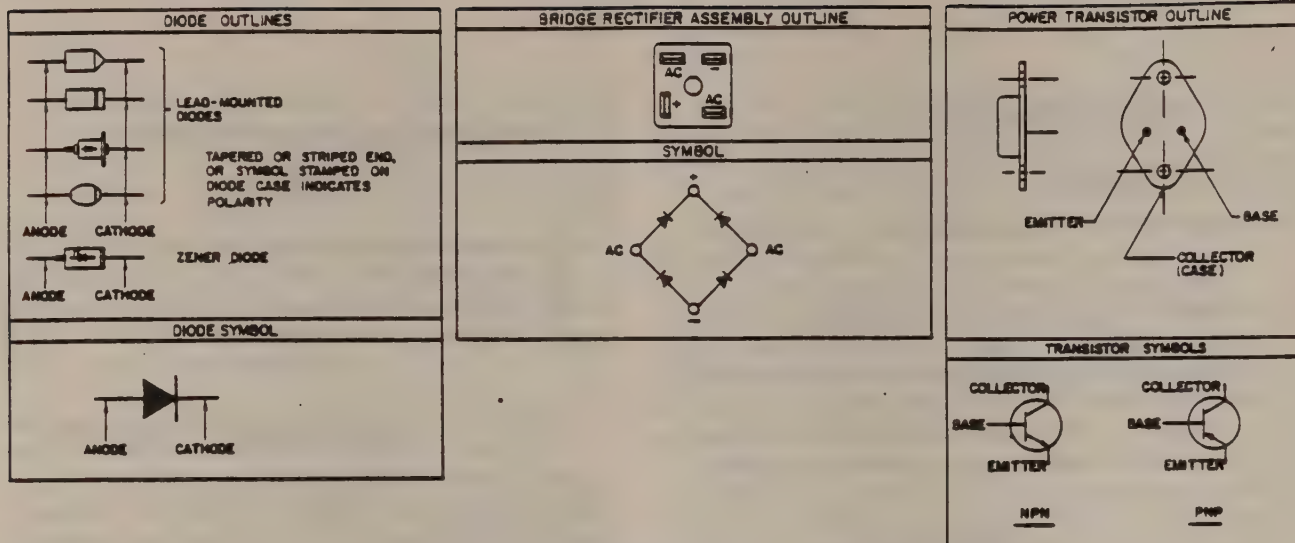

Figure 7-1
7.07 Semiconductor device outlines for diodes and transistors used in this converter are shown in Figure 7-1. The outlines are intended to aid servicing personnel in identifying semiconductor terminations during troubleshooting or replacement procedures.